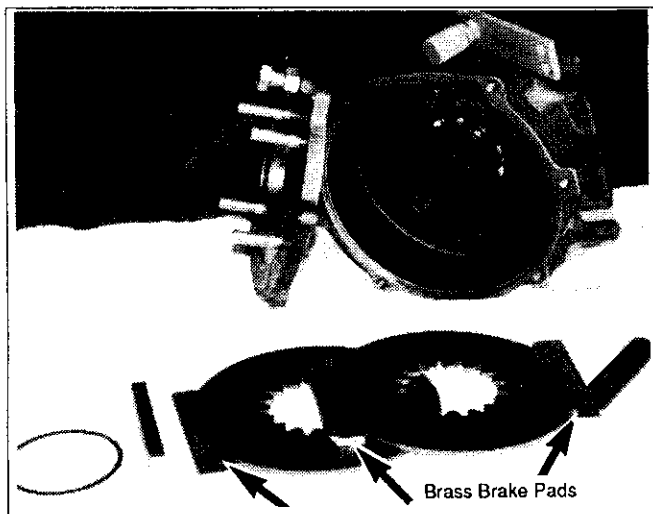

Figure 6-2
6. Remove the six (6) 3/8 inch cap screws and brake housing cover.
7. Remove the steel bar and brass brake pad from roll pins. Slide brake disc off input shaft. Repeat for second disc. (**NOTE:** location of two (2) steel pads for reassembly.) (See figure 6-2)